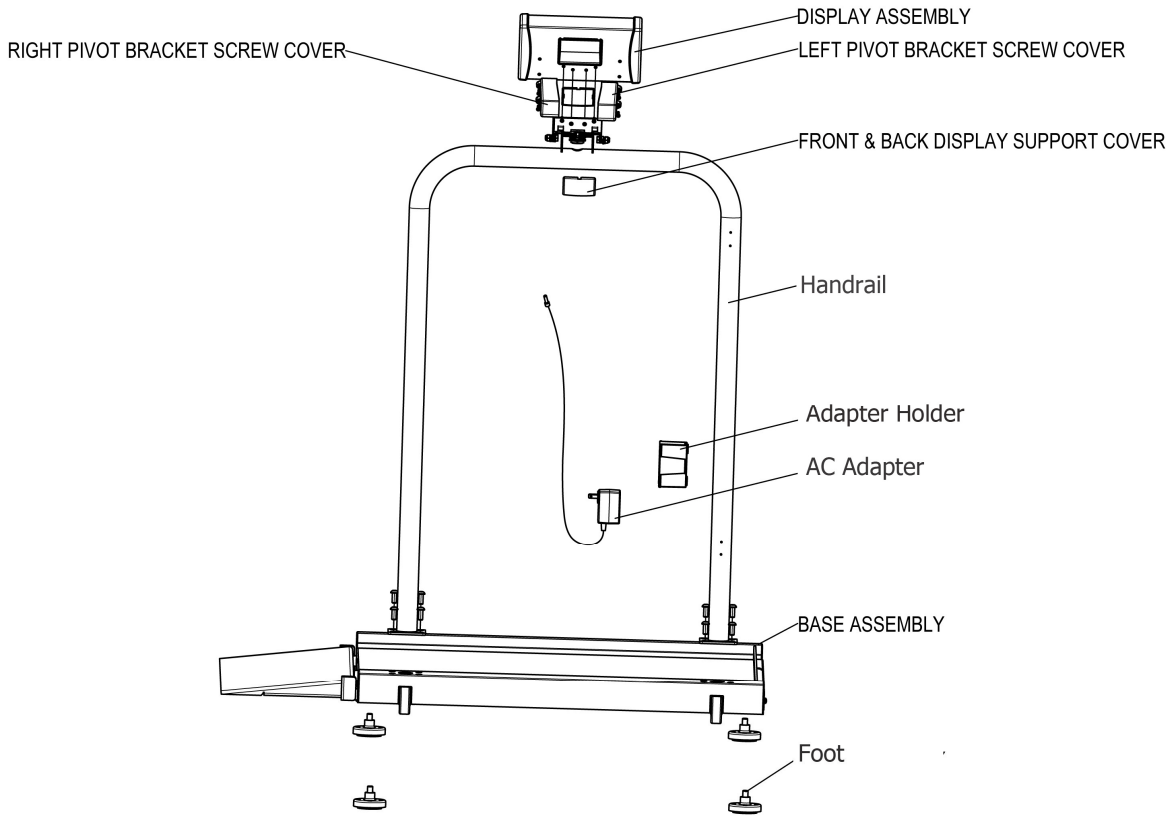

Figure 4
10. Thread the 4 feet into the underside of the base assembly. Each foot should initially be completely hand tightened, and then backed out 1-½ full turns. This will allow for proper load cell operation and scale accuracy (see Figure 4).